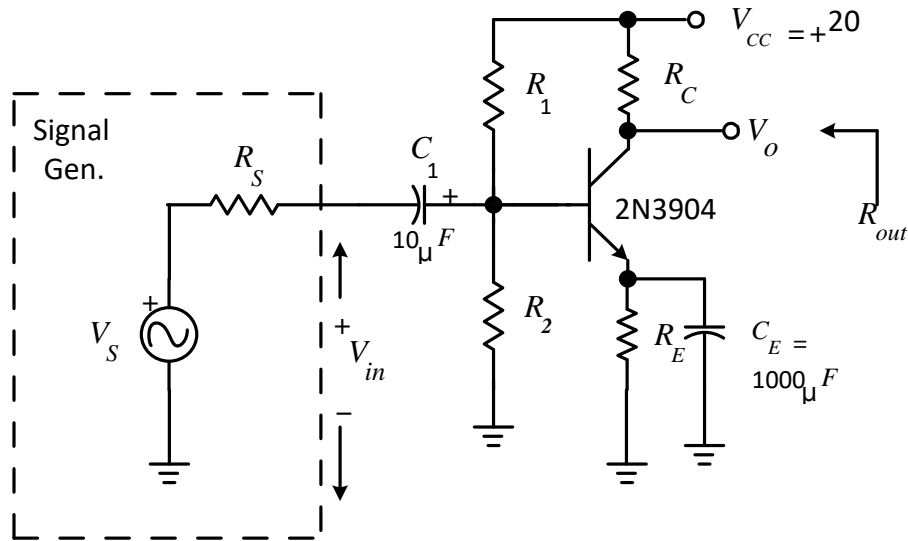

Figure 1: The common-emitter amplifier for this experiment.
In Experiment 4, a BJT amplifier design was started by designing the biasing network, given a desired quiescent point. Figure 1 shows the amplifier with coupling and bypass capacitors added. **Write in the values for R_C , R_E , R_1 , and R_2 that you used for Design 1 in Experiment 4.** The capacitors have been selected so that the lower cutoff frequency should be near 320 Hz.
Draw the mid-band equivalent circuit for the amplifier of Figure 1. Using your design value of I_C from Experiment 4, **calculate g_m , r_{π} , and the expected voltage gain V_o/V_{in}** . Note that V_{in} is taken at the input of the amplifier. Most signal generators have an output resistance of 50Ω .
- Using a multi-meter, **measure the exact resistance of the resistor you will use for R_C** . (This value will be important later on.) Using a breadboard, construct the circuit of Figure 1. Be sure to observe the polarity of the electrolytic capacitors. Before connecting the signal generator, **apply dc power and check the dc bias voltages of the circuit to ensure they are reasonable**.